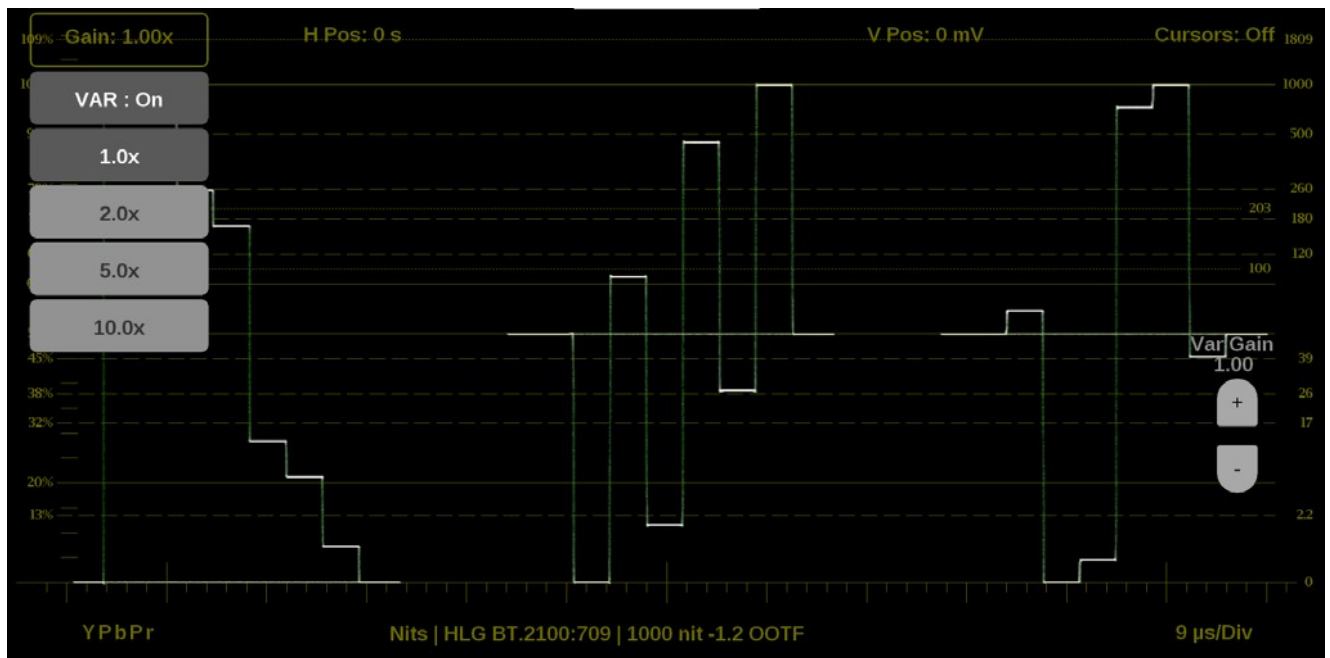

Figure 88: Waveform on-screen tools – Gain
1. Select the **Gain** button to expand the available magnification options drop down list. (See Figure 88.)